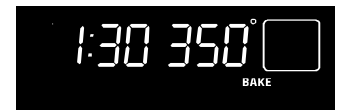

Fig. 2
1. After the oven has already been set to bake at 350°F and the oven set temperature needs to be changed to 425°F, press (See Fig. 2).